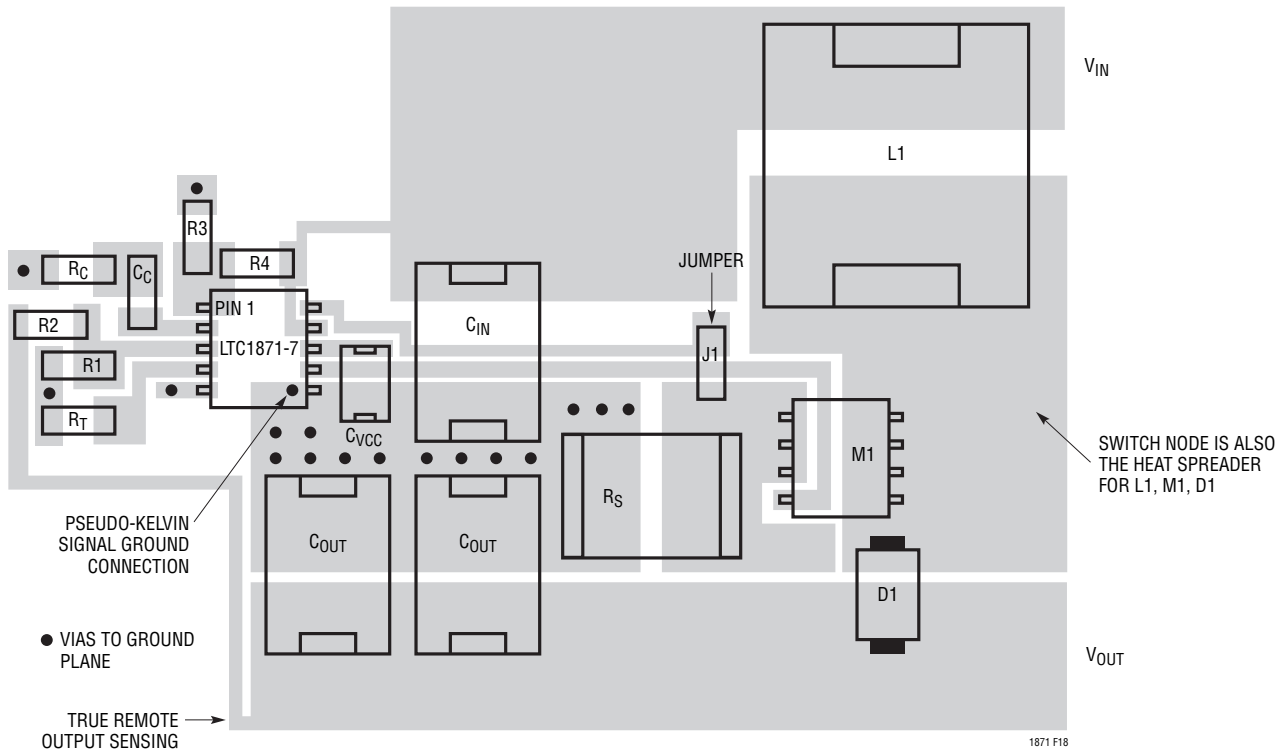

Figure 18. LTC1871-7 Boost Converter Suggested Layout
6. Place the small-signal components away from high frequency switching nodes. In the layout shown in Figure 18, all of the small-signal components have been placed on one side of the IC and all of the power components have been placed on the other. This also allows the use of a pseudo-Kelvin connection for the signal ground, where high di/dt gate driver currents flow out of the IC ground pin in one direction (to the bottom plate of the $INTV_{CC}$ decoupling capacitor) and small-signal currents flow in the other direction.